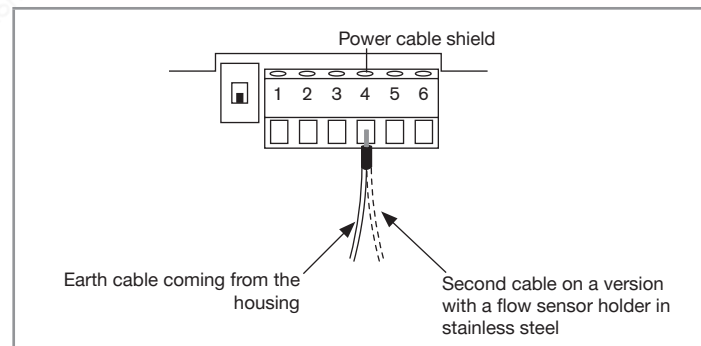

Fig. 14: Earth connection terminal
- In the housing, connect the power supply cable shield to terminal no. 4 of the electronic board connector (Fig. 14). On a version with stainless steel flow sensor, a second cable is coming from the sensor.